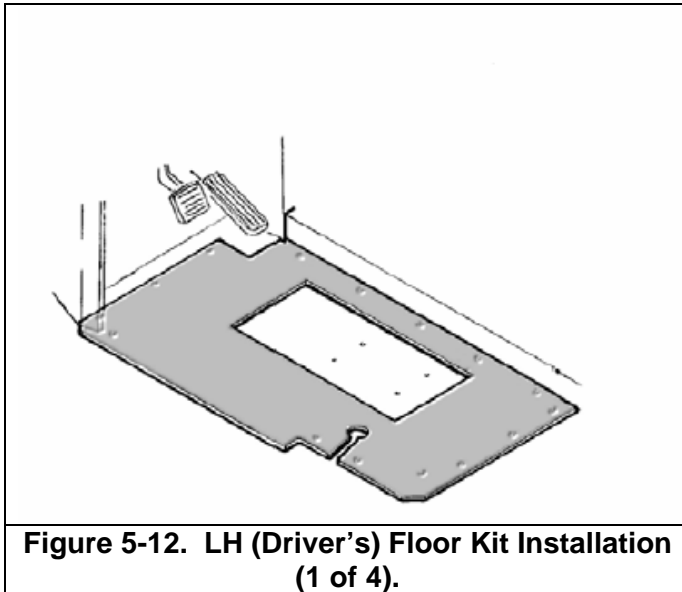

Figure 5-12. LH (Driver's) Floor Kit Installation (1 of 4).
1. Position the right, left, and center floor panels as shown in Figures 5-12, 5-12, and 5-13.